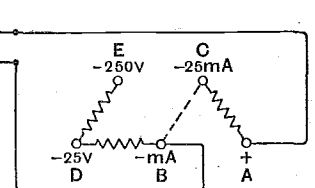
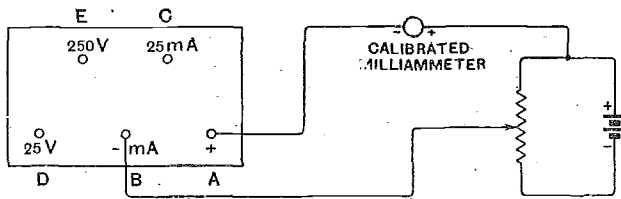
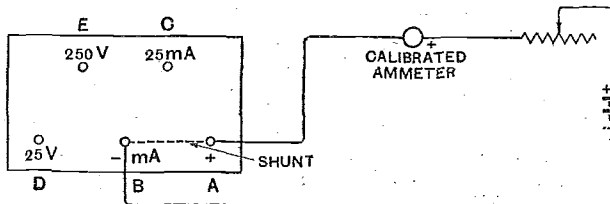

Fig. 2.—Method of connecting additional terminals and resistances.
Fig. 4.—Connections for calibrating the instrument in milliamperes (0-8).
Fig. 5.—Calibrating the instrument in amperes.
Fig. 3.—View of the interior of the instrument showing, on the left, the series resistance employed when measuring up to 250 volts; top right-hand corner, the shunt connected between terminals AC, fig. 2.
D.S.C. Eureka wire, and so adjusted as to make the figures on the scale represent true milliamperes. One end of this winding is connected to the + terminal, and the other to a small terminal C, fig. 2, added to the instrument terminal board. The bobbin itself is fixed to the top right-hand corner of the case. If finer readings than this are needed, the moving coil can be connected
to a separate terminal, B, fig. 2, when the instrument will give a full-scale deflection with about 8 milliamperes.
To calibrate the milliamperes current reading scale, it is necessary to connect a calibrated milliammeter in series with the instrument and supply both from a small battery-potentiometer arrangement as indicated in Fig. 4. In the case of the 25 mA scale, the shunt should be suitably adjusted until both instruments give similar readings. For the 8 mA scale, note where the needle rests at the different readings, and either mark the dial or take a note of its position on the scale for each point of reading required. Heavier currents may be measured by employing external shunts made of strips of resistance material and connected across the terminals marked A, B (Fig. 2). The correct size for the shunts can best be found experimentally by connecting the instrument and its shunt in series with a calibrated ammeter and battery, as in Fig. 5.